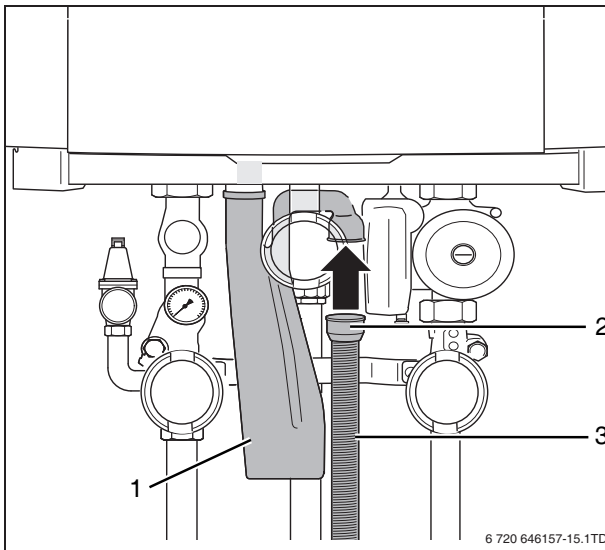

Fig. 15 Installing the condensate trap hose
- Connect the condensate trap hose (fig. 15, [3]) and the rubber sleeve (fig. 15, [2]) to the condensate trap (fig. 15, [1]).